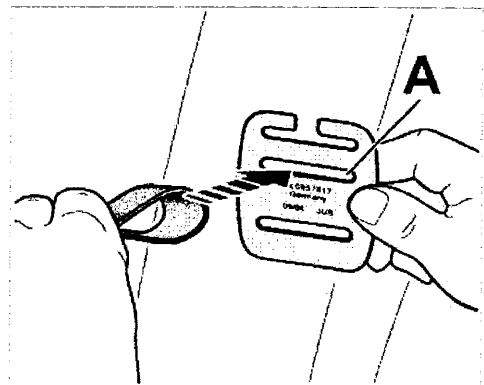

Figure 6
- 12.1 Hold the belt strap holder in assembly position in your right hand and use your left hand to feed the belt loop formed with the seat belt from the front through the center opening (Figure 6, Item A) on the belt strap holder (Figure 6, Arrow).